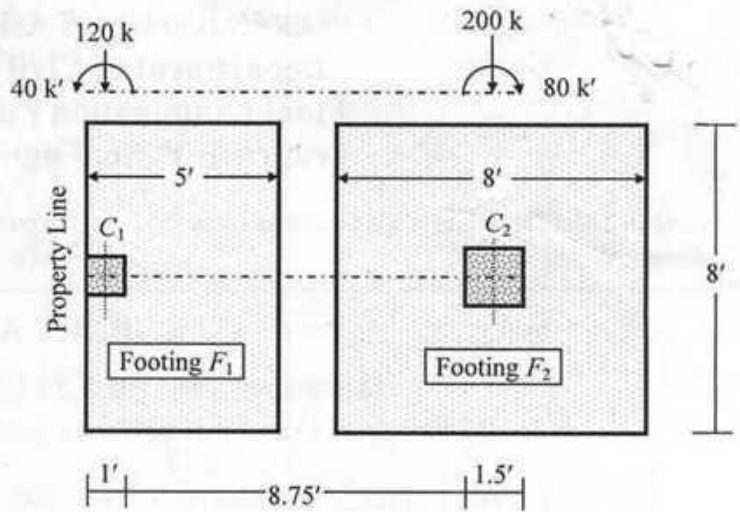

Fig. 2
5. Fig. 2 shows the axial force and bending moment on (12" × 12") column  $C_1$  and (18" × 18") column  $C_2$ .